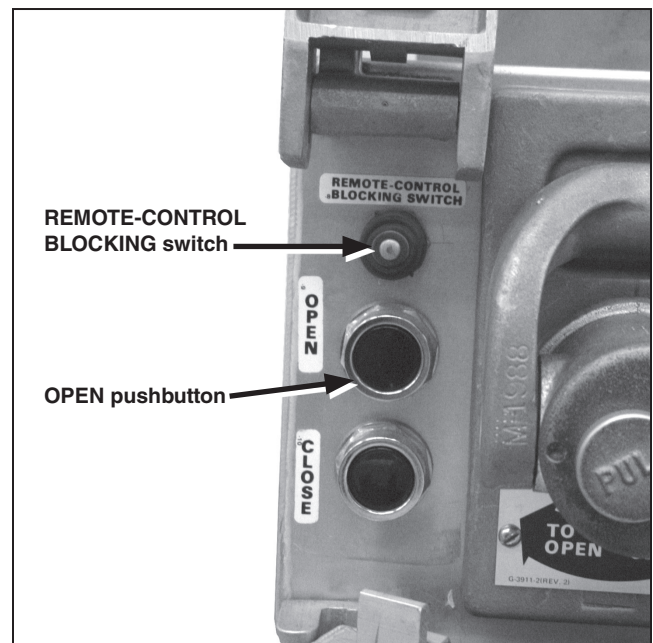

Figure 15. Lift the pushbutton protective cover, and press the OPEN pushbutton.
- STEP 2.** Lift the pushbutton protective cover of the Mark VI CS-1A Switch Operator. For circuit-switchers with the optional REMOTE-CONTROL BLOCKING switch (catalog number suffix “-Y”), opening the pushbutton protective cover prevents remote operation of the switch operator. See Figure 15.
- STEP 3.** Press the OPEN pushbutton for about one second to trip the circuit-switcher. See Figure 15.